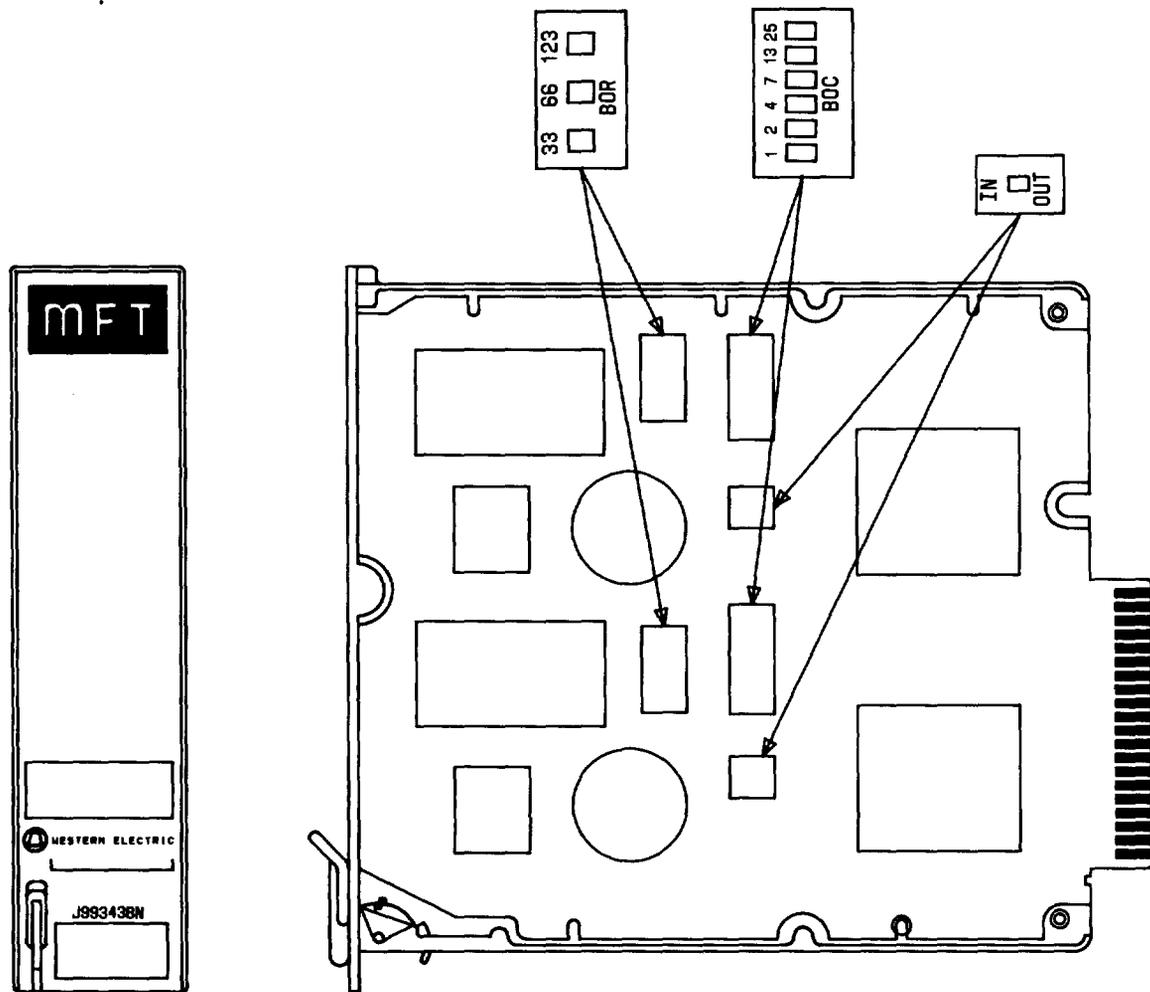
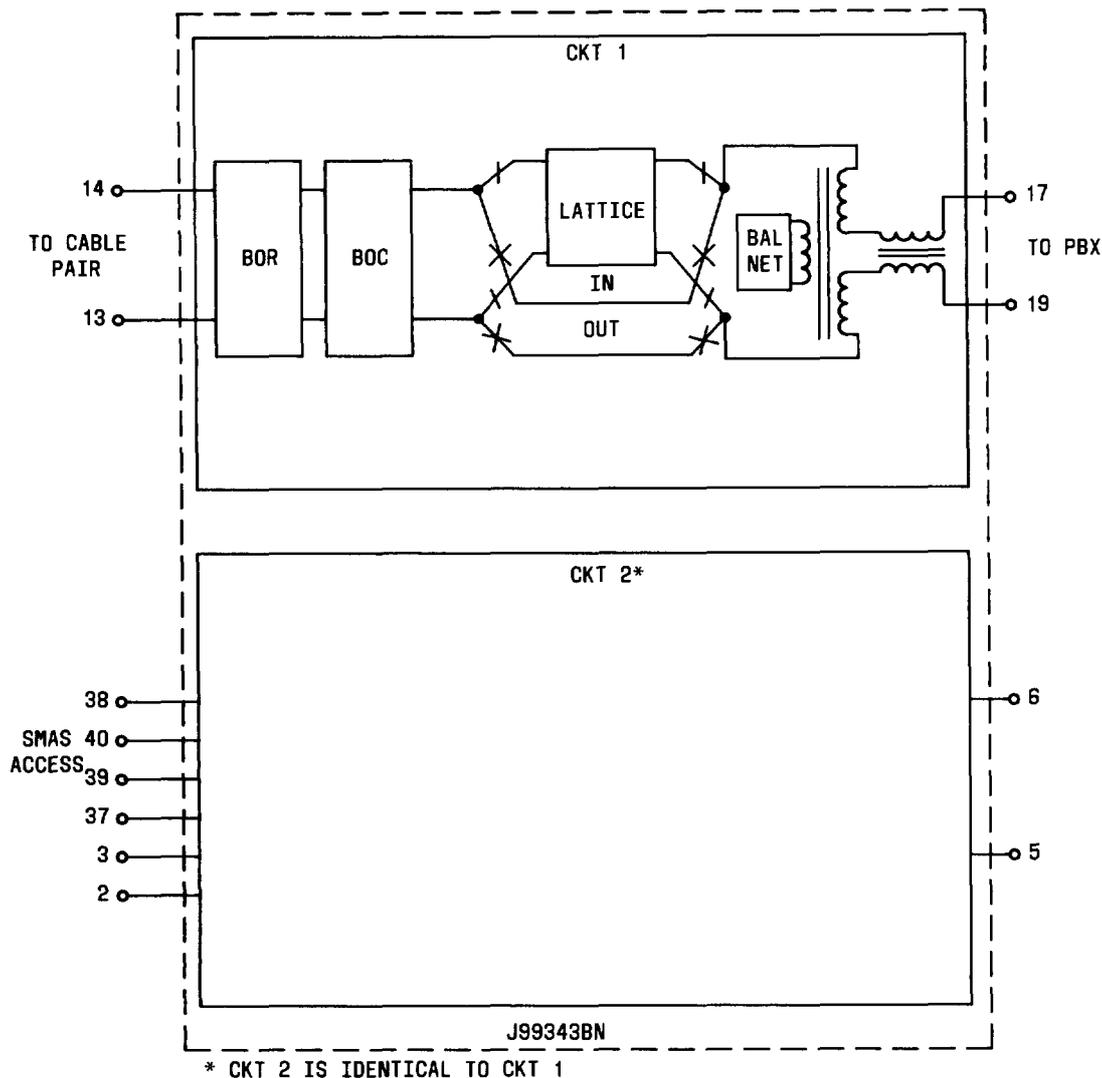

Fig. 5—Component Layout, J99343BN
Fig. 6—Block Diagram, J99343BN
nent layout for the J99343BN is shown in Fig. 5. Figure 6 shows a block diagram of the J99343BN.
4.05 The J99343BN contains two identical impedance compensation circuits as shown in Fig. 6. The equipment side of the circuit interfaces the 600-ohm terminating equipment.